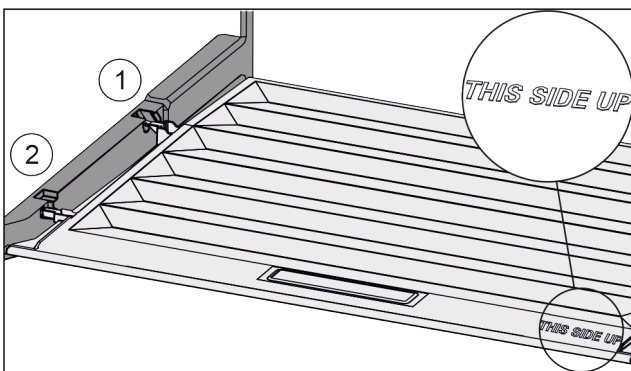

Fig. 115
- ▶ Insert the lip of the cover over the opening of the rear bracket Fig. 115 (1) and click into place Fig. 115 (2).